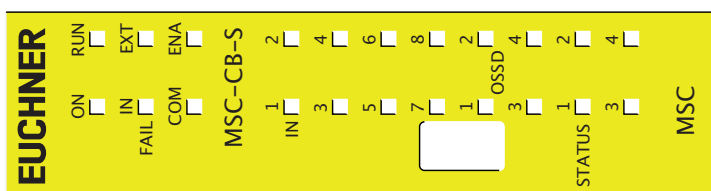

Figure 29:
8.4.2. Base unit MSC-CB-S (Figure 29)